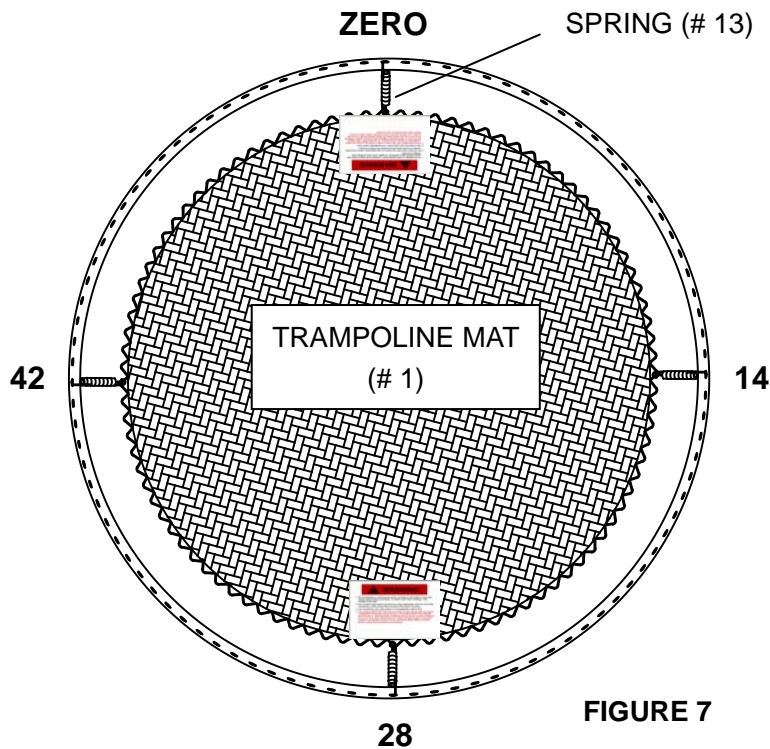

FIGURE 7
B. Next, starting from point Zero, count to hole 28 on the opposite end of the mat and attach a Spring in the same manner. For even distribution of tension and ease of assembly, springs should always be installed on opposite sides of the mat/frame in an alternating manner, i.e. Zero, then 28, followed by 14 and 42 as shown in FIGURE 7.